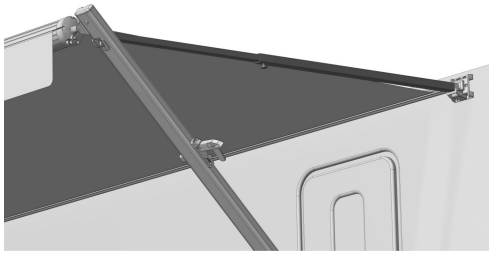

Figure D8
b. Fine tune the inner rod and tighten the awning fabric. The awning has been opened. (Figure D8)